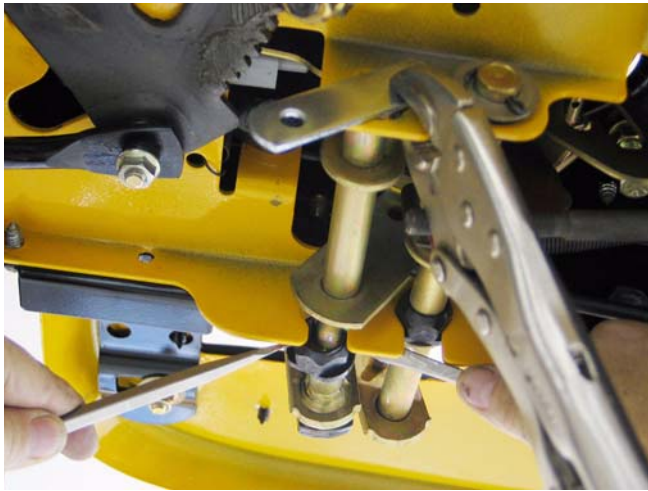

Figure 32.34
32.34. Press the brake pedal shaft as far outward as possible, and pry the worn bushing out of the bracket. See Figure 32.34.